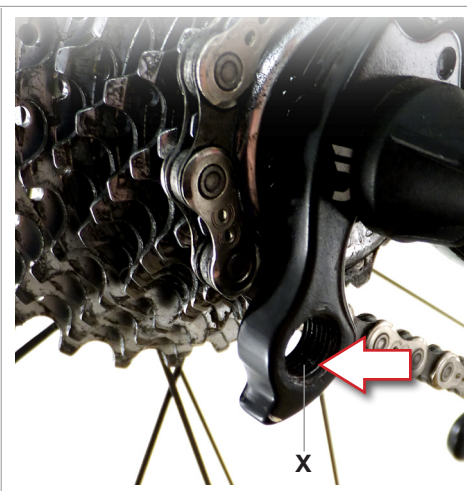

Fig.2
- Chase the threads of the rear derailleur hanger (X - Fig. 2) using a tool tap with threading 10x26 TPI.